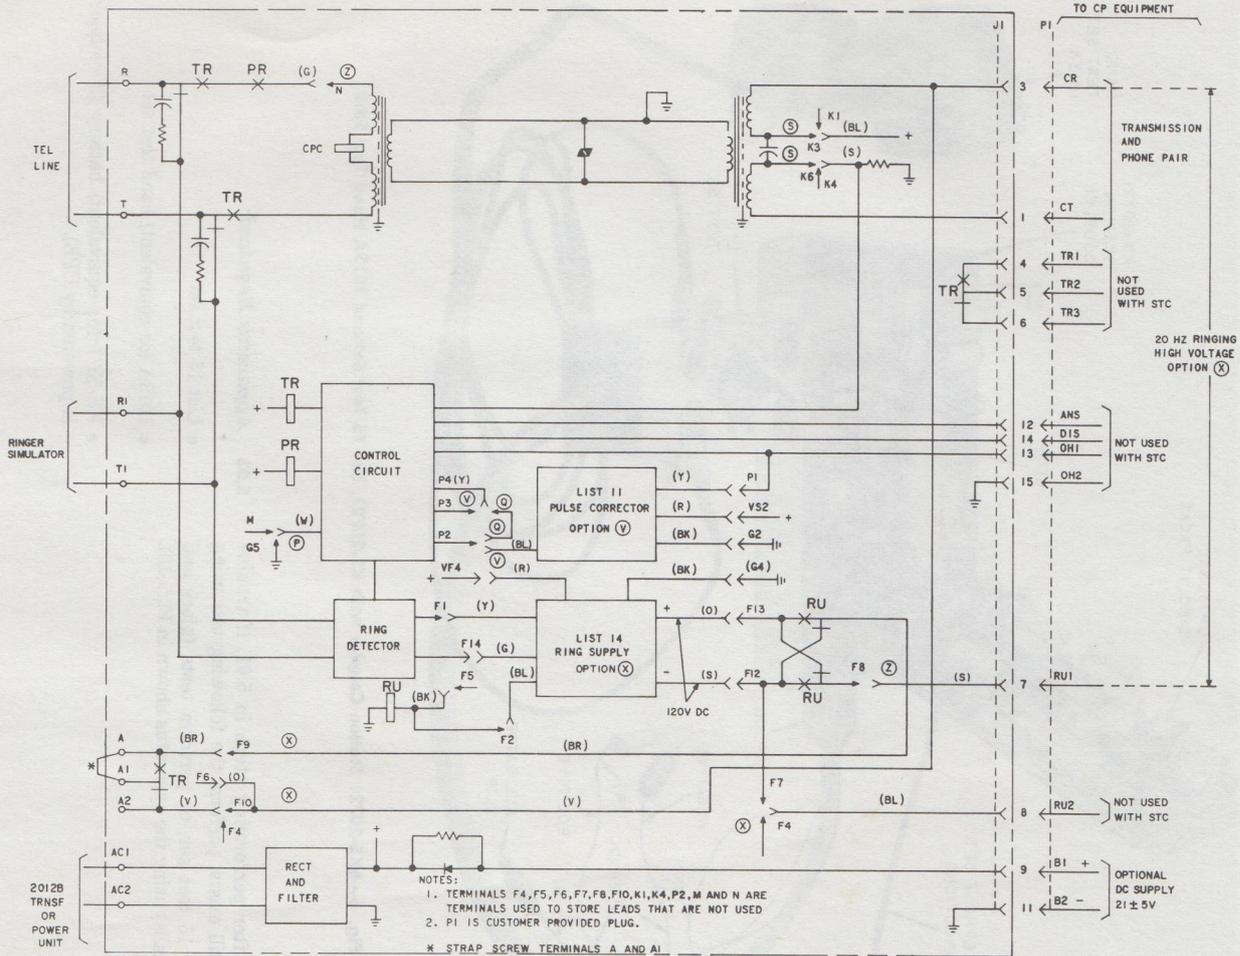

Fig. 7—KS-20721 Station Coupler Internal Wiring Options
**4.01** The KS-20721, List 1 station coupler (Fig. 7) consists of a 20-Hz ringing signal detector operating ringup (RU) relay; a supervisory control circuit operating line transfer (TR) relay, dial pulsing (PR) relay, and CPC relay; a transmission circuit consisting of two transformers in tandem, a peak voltage limiter, and a power supply rectifier and filter circuit.